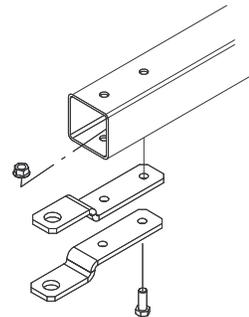

Figure 7
1. Using one of the configurations in figure 7 or 8, adjust and secure hitch straps to trailer tongue.